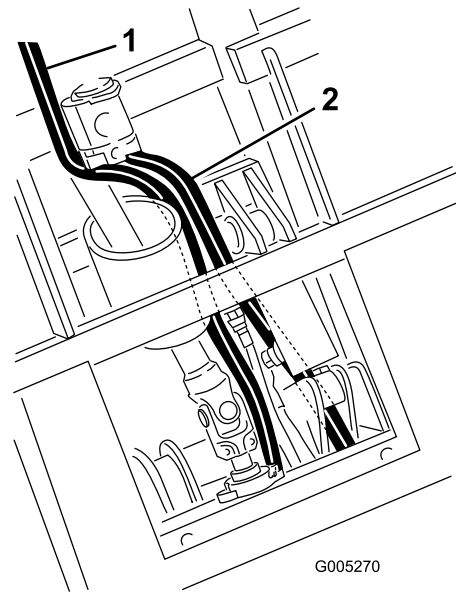

Figure 36
- Route the tank hose under the lift cylinder and between the cylinder mounting brackets to the valve (Figure 36).
- Route the pressure hose along side the PTO shaft to the valve (Figure 36).